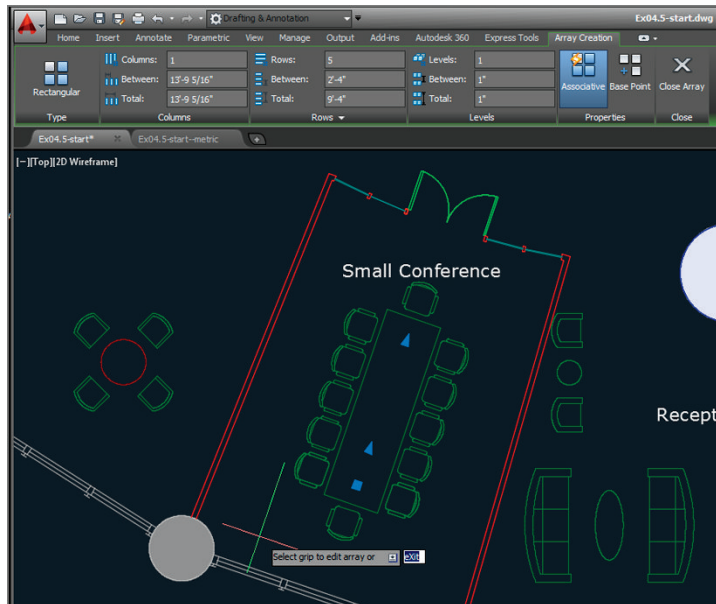

FIGURE 4.19 Creating a rectangular array by changing parameters on the ribbon
3. Change Columns to 1 and Rows to 5 on the temporary Array Creation tab that appears on the ribbon. Type **2'4 (72)** for metric) in the Between text box in the Rows panel and press the Tab key (see Figure 4.19).
5. Select one of the new chairs, and observe that all the arrayed chairs are selected as a unit. Change the Rows to 4 and Between to **3' (90)** for metric); the five chairs along each side of the table are replaced by four. Click Close Array.